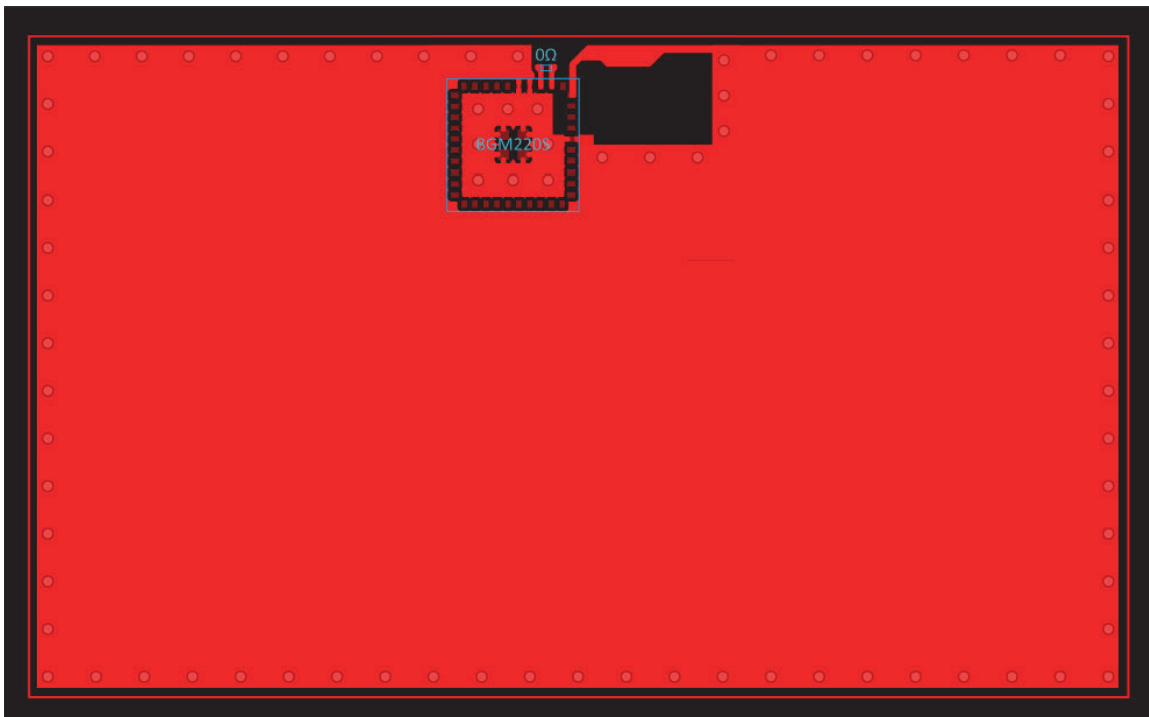

Figure 7.1. Recommended Layout for BGM220S
- Place the module 1.50 mm from the edge of the copper “keep-in” area at the middle of the long edge of the application PCB, as illustrated in Figure 7.1 Recommended Layout for BGM220S on page 32.